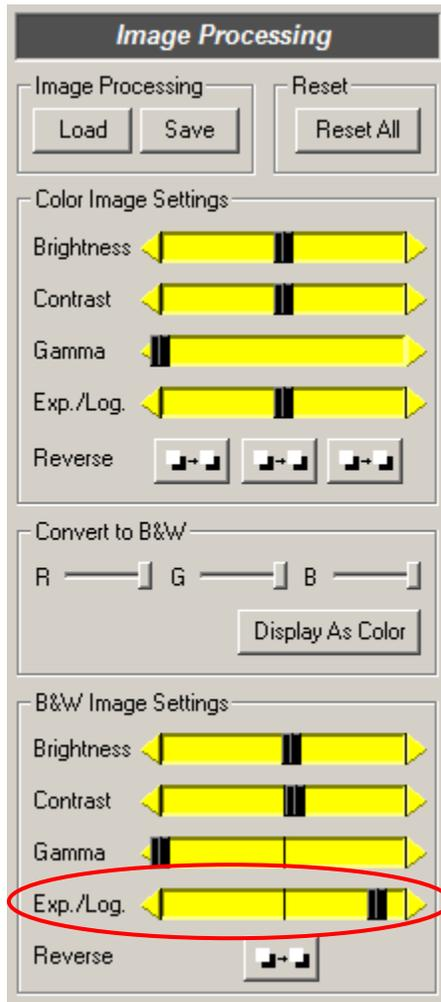

Figure 9. Image Processing Control panel
4. Click **Display B&W**. Under B&W Image Settings, adjust the **Exp./Log** slider until it resembles the one shown in Figure 9. Image Processing will improve feature tracking accuracy.